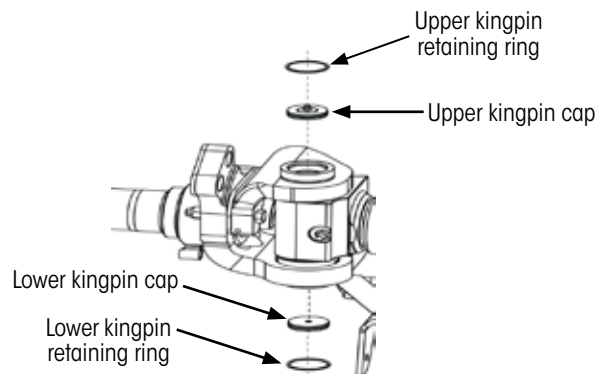

Figure 33: Installing kingpin cap assemblies (Axle configuration may vary)
2. Install upper and lower kingpin cap assemblies (Figure 33) ensuring the O-rings are not damaged during assembly.